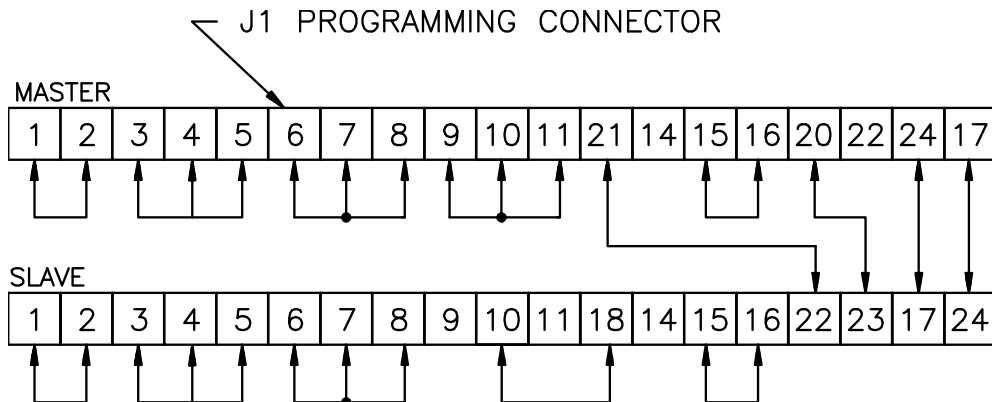

Figure 3.14: Paralleled Operation in Master/Slave Configuration with OVP
- B) Figure 3.14 for Master/Slave with OVP Master/Slave. In this configuration both Master and Slave will shut down with an OVP Function.